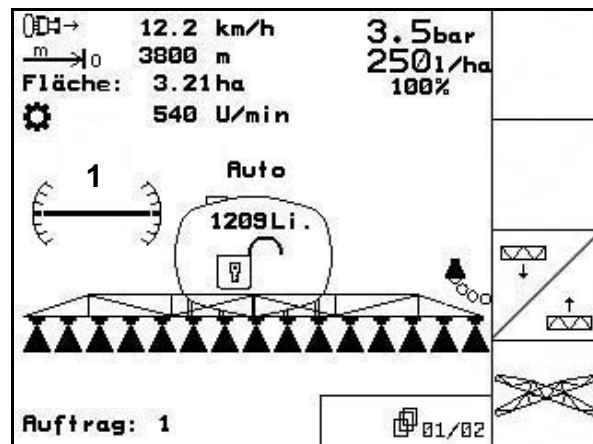

Fig. 127
- In the Menu operation the symbol tilt adjustment (Fig. 127/1) shows the horizontal alignment of the sprayer booms.